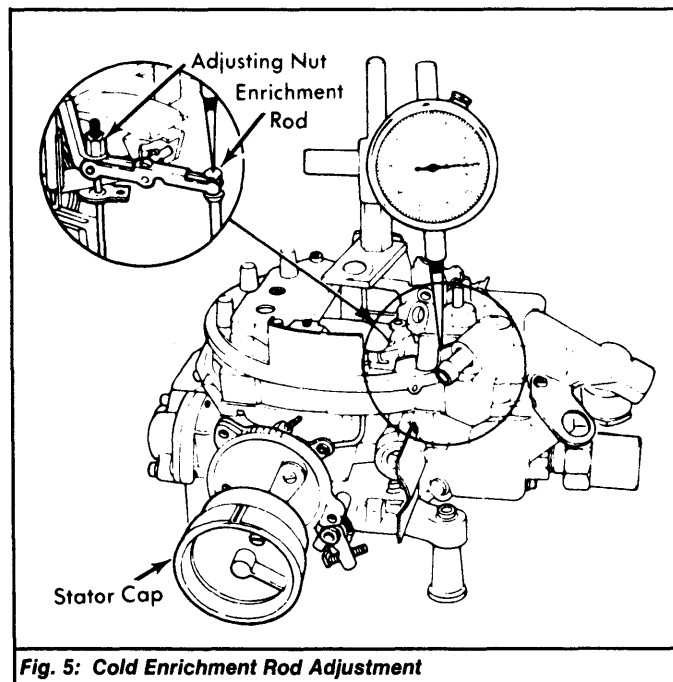

Fig. 5: Cold Enrichment Rod Adjustment
- 2) Remove stator cap adjuster and reinstall to index position. Dial indicator should read .12-.13" (3.0-3.3 mm). To adjust, turn nut clockwise to increase height or counterclockwise to decrease. Put on choke cap and set to proper position. See Fig. 5.